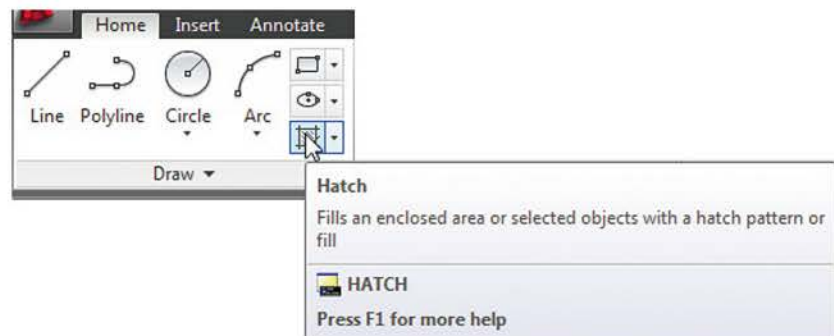

Fig. 7.9 *Left-click* on the Hatch tool icon in the Home/Draw panel
1. *Left-click* on the **Hatch** tool icon in the **Home/Draw** panel (Fig. 7.9). The ribbon changes to the **Hatch Creation** ribbon. *Entering hatch* or *h* at the keyboard has the same result.